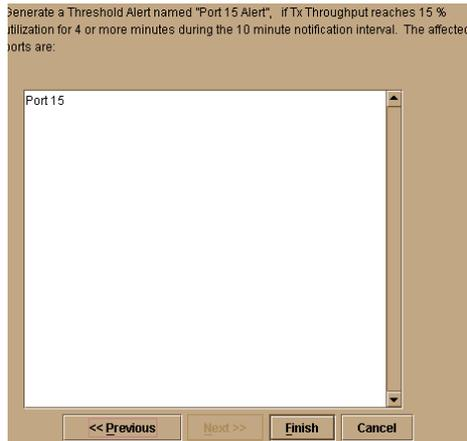

Figure 2-43: New Threshold Alerts dialog box—summary screen
- Click **Next**. A final screen displays to provide a summary of your alert configuration. To make any changes, backwards and forwards through the configuration screens by selecting **Previous** and **Next**, as shown in Figure 2-43.